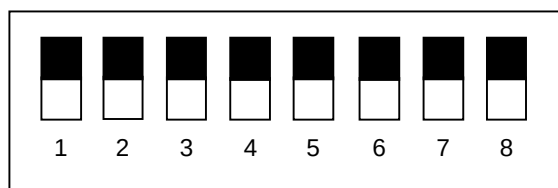

Figure 3.2 Standard DIP Switch Settings
- (5) Set DIP switch No.1 as shown in Figure 3.2.